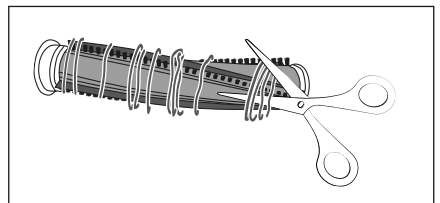

Fig. 24
- 4) Cut threads and hairs along the bristles of the rotary brush **19** with scissors (see Fig. 24). Remove threads and hair from the rotary brush **19**.